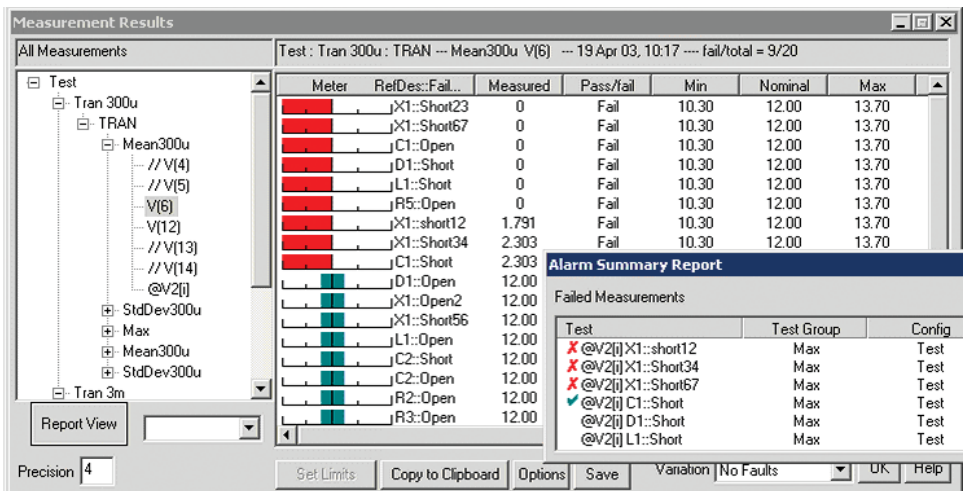

Figure 4: Fault dictionary for the first test eliminates all of the over-stressed failure modes using a short 300uS, safe to start test.
5. Embeds user-defined electrical measurements and simulation results in the design database (Figure 4).